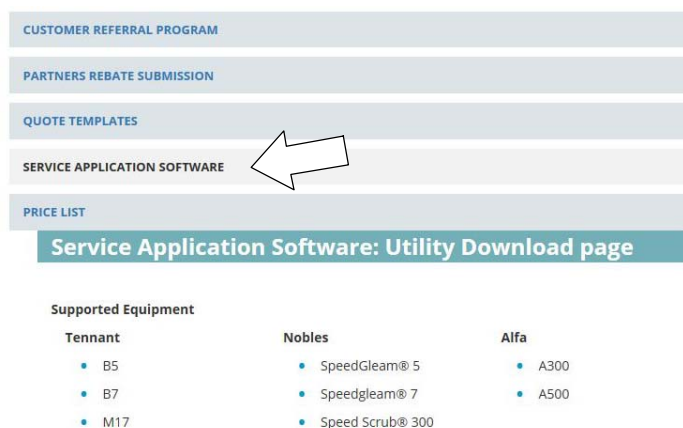

Fig. 13
3. Click on the “**SERVICE APPLICATION SOFTWARE**” link as shown below (Figure 13).